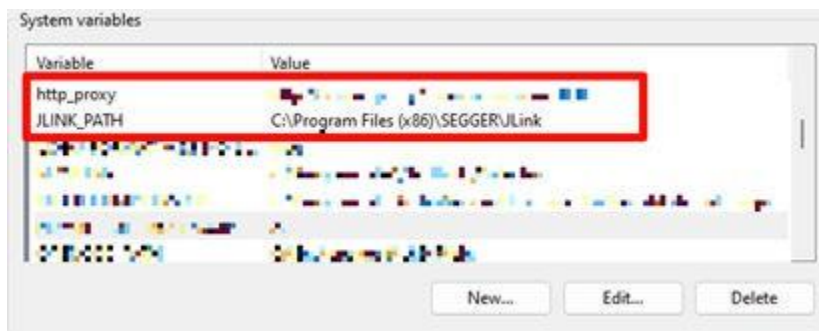
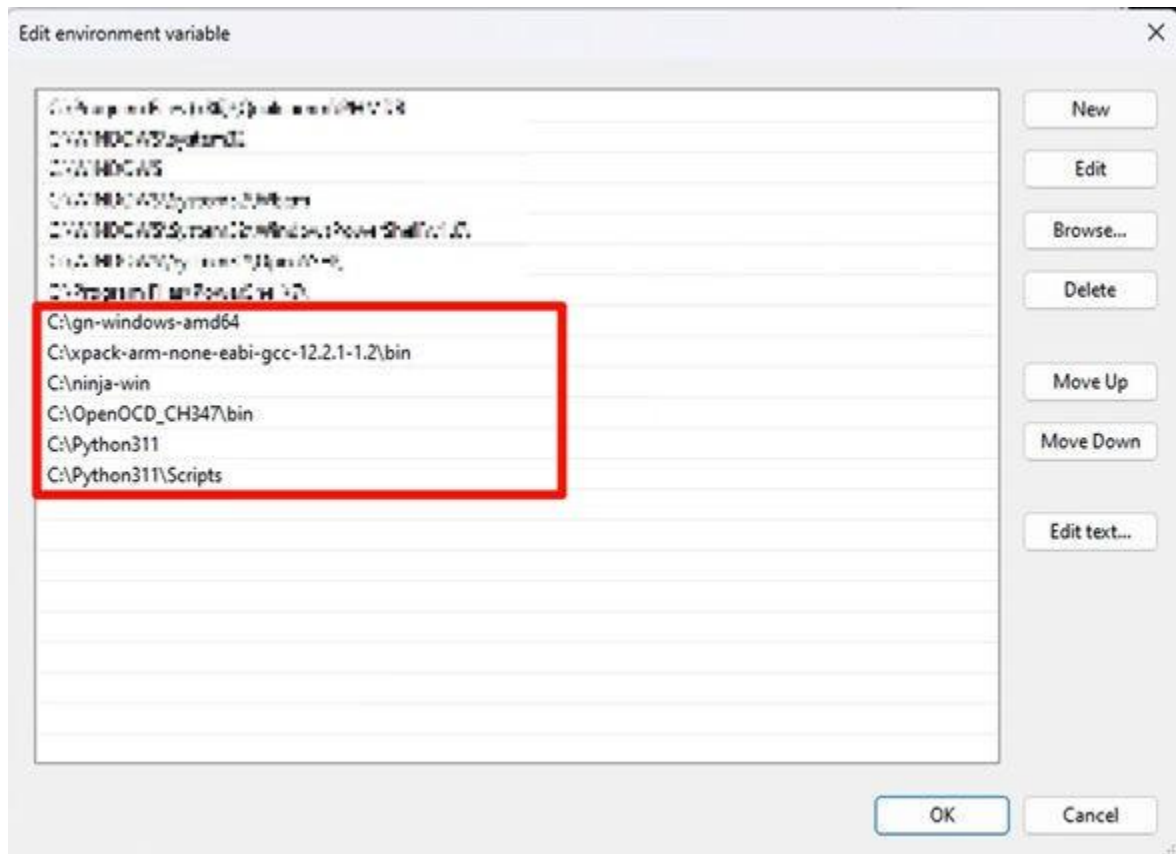

Figure 2-4 System variables
Figure 2-5 Environment variable details
1. Configure environment variables in **Advanced system settings** as shown in Figure 2-4 and Figure 2-5.